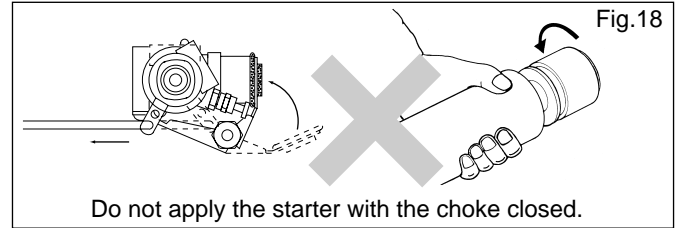

Fig.18
- Warning! Never close the choke valve when applying the starter. Such an action will cause an excess quantity of fuel to be drawn into the cylinder and result in hydraulic lock that may damage the engine. (Fig.18)